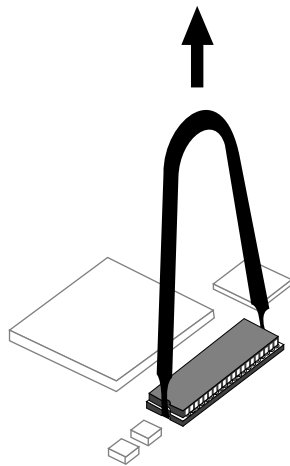

Figure 0-2 Removing the PROM Chip
- Insert the chip removal tool between the PROM chip and the socket on the board, as shown in Figure 0-2. Work the chip away from the socket in a rocking motion, pulling up on one side of the chip and then on the other side. It may be difficult to loosen.